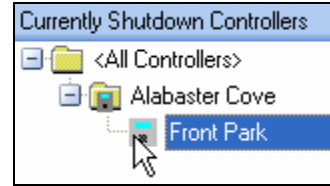

Figure 15.0.3
2. Select an entire site or select a single Controller to convert back from Winter Shutdown (Figure 15.0.3).